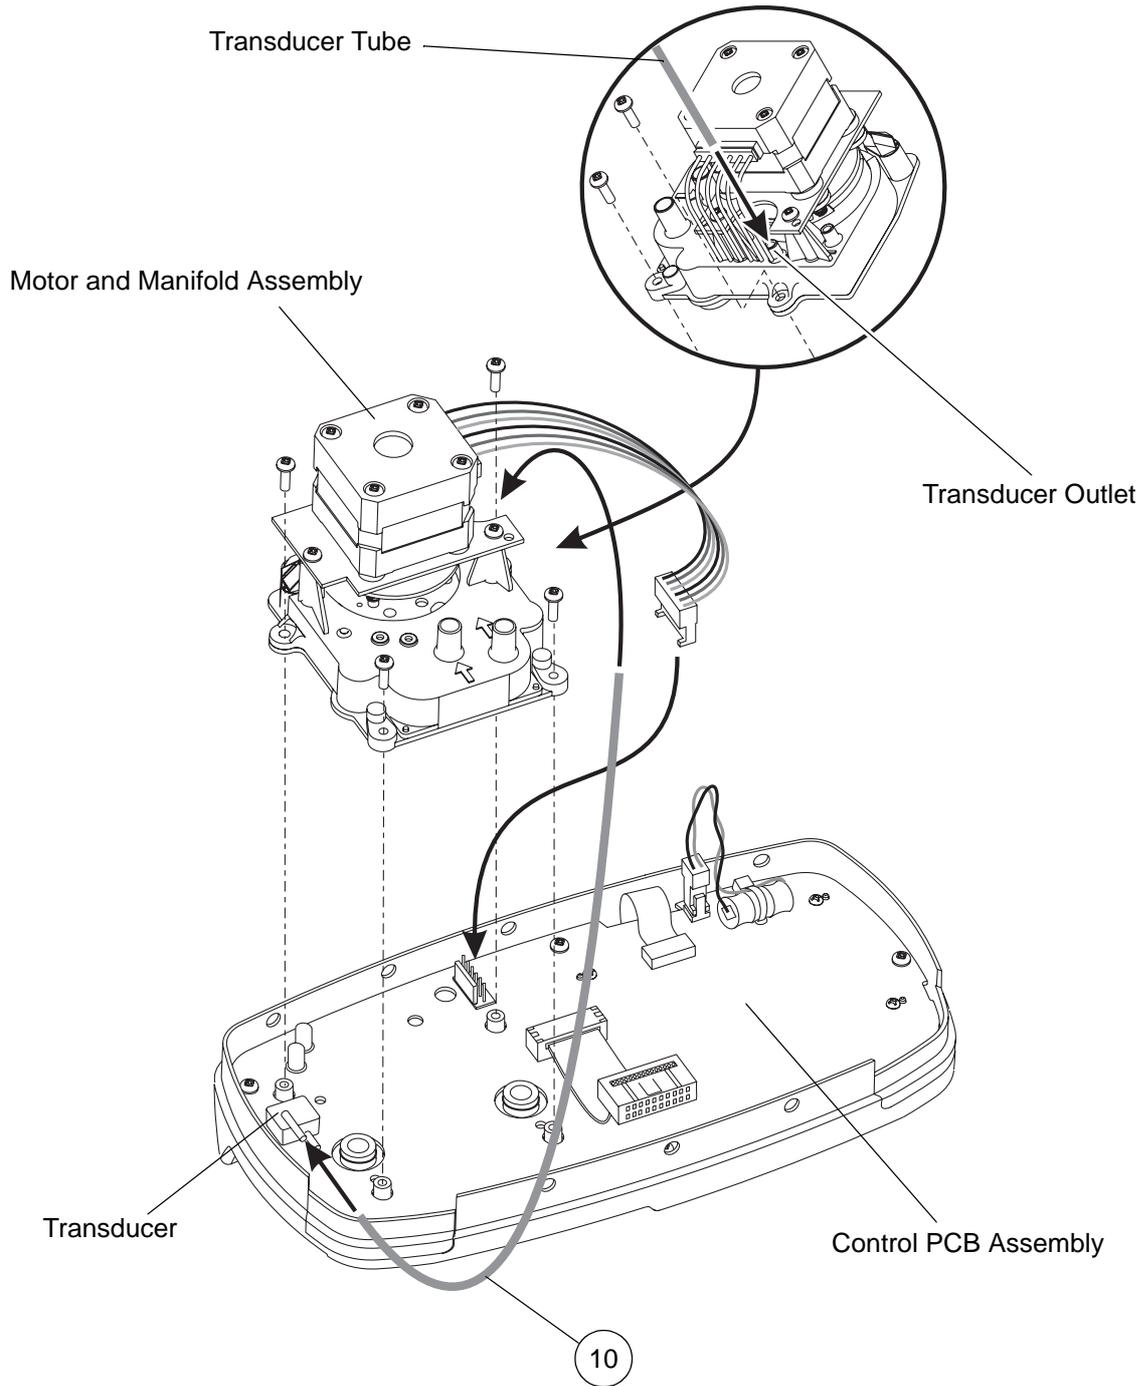

Figure 47 - Installing the New Longer Transducer Tube
19.25 Install the motor and manifold assembly into the pump (Refer to Page 20, Section 19.8). To install the new longer transducer tube (Table 15, Item 30), use the following procedure (refer to Figure 47):
- 21.2 Refer to Figure 47 and Table 17, which detail the longer tube.
Connect one end of the longer transducer tube (Fig 47, Item 10) onto the transducer outlet on the motor and manifold assembly.
Connect the other end of the longer transducer tube (Fig 47, Item 10) onto the top outlet on the transducer on the control PCB assembly.